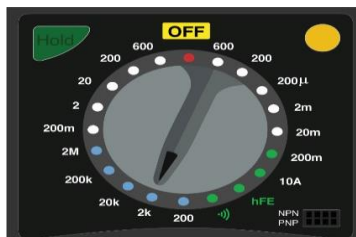

Fig. 1.18 Selector knob at diode mode
Step 3 – Rotate the knob of the multimeter in the diode mode as shown in Figure 1.18.
Step 3 – Turn the multimeter in the diode mode. Figure 1.18 illustrates that the selector is in diode mode.
Step 1 – Set the multimeter to the diode test mode as illustrated in Figure 1.18